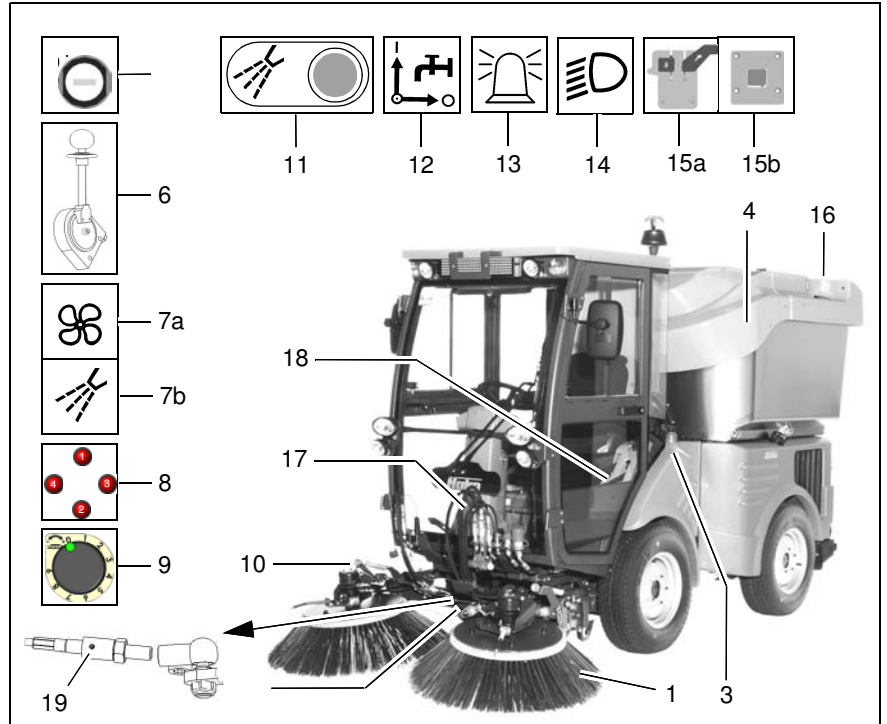

Fig.25
- Check the spray nozzles on the circular brushes (Fig. 25/1) and on the vacuum nozzle (Fig. 25/2).
- Top up the solution tank (Fig. 25/3). The filling volume is approx. 170 liters.
- Check the strainer on the solution tank (Fig. 25/3).
- Top up the dirt hopper (Fig. 25/4) with approx. 150 liters of circulation water (water level approx. 10 cm above floor flap).
1. Start up the vehicle (Fig. 25/5) and drive to the job location.
2. Set the speed adjustment lever (Fig. 25/6) to the preferred speed
3. Switch on the suction turbine (Fig. 25/7a).
4. Lower the sweeping unit (Fig. 25/8).
5. Adjust the circular brush speed on the speed adjuster (Fig. 25/9).
6. Check the circular brush surface pressure using the thumb screws (Fig. 25/10).
(Fig. 25/18).
8. Switch on the solution pump (Fig. 25/7b) and adjust the water flow for the spray nozzles (Fig. 25/11) in such a way that dust formation in the sweeping area is optimally prevented.
9. Open the water valve (Fig. 25/12) for moisturizing the suction pipe when necessary.
10. Switch on the flashing beacon (Fig. 25/13).
11. If necessary, switch on the driving light (Fig. 25/14).
12. Slowly push down the accelerator pedal (Fig. 25/15a) until the vehicle starts moving; the speed is increased if the pressure on the pedal is increased.
- Covers (Fig. 25/16) on the dirt hopper for the manual suction hose not correctly put in place.
- If there is a blockage in the vacuum nozzle, use the auxiliary tool (Fig. 25/17) to carefully clean the vacuum nozzle, see paragraph 2.4.8.
- The circular brushes cannot be pivoted in. Check the heavy duty spring pin (Fig. 25/19); change it, if necessary. The heavy duty spring pin is a predetermined breaking point and must not be modified!
- Check the metering and the filter elements on the recycling system (Fig. 25/19).
- Check the strainer at the solution tank (Fig. 25/3).
- Fill the dirt hopper (Fig. 25/4) with approx. 200 liters of circulation water.
2. Set the speed adjustment lever (Fig. 25/6) to the preferred speed.
3. Switch on the suction turbine (Fig. 25/7).
4. Lower the scrubber unit (Fig. 25/8).
5. Switch on the water for the scrubber unit using the rotary switch (Fig. 25/11) and adjust the water flow.
6. Adjust the scrubber speed at the speed adjuster (Fig. 25/9).
7. Preselect surface pressure or the relief of the surface pressure exerted by the scrubbers using switch (Fig. 25/10b) and turn it on and ad-
just it using the rotary switch (Fig. 25/10a).
8. Switch on the flashing beacon (Fig. 25/13).